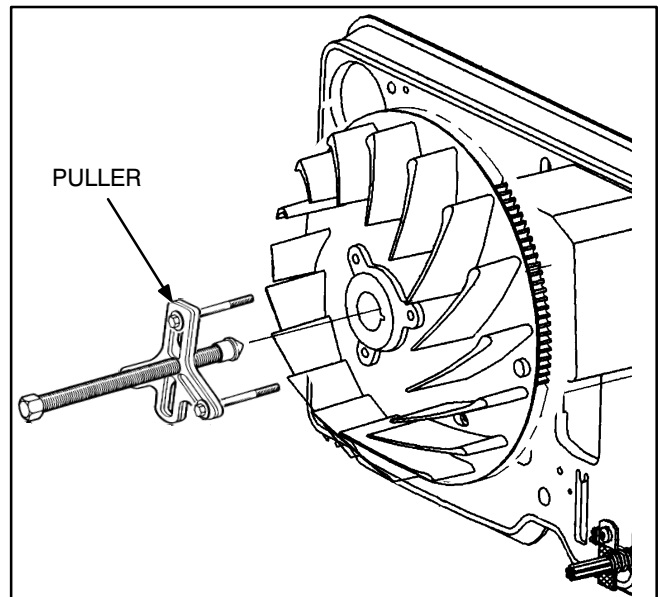

FIGURE 7-2. PULLING THE FAN
9. Use a magnet to pull out the fan-to-shaft alignment key and save it for reassembly. Remove the fan with a wheel puller (Figure 7-2) Attach the wheel puller to the fan hub with three 5/16-inch thread tapping cap screws (or tap fan hub with 3/8-inch tap and use 3/8-inch cap screw).